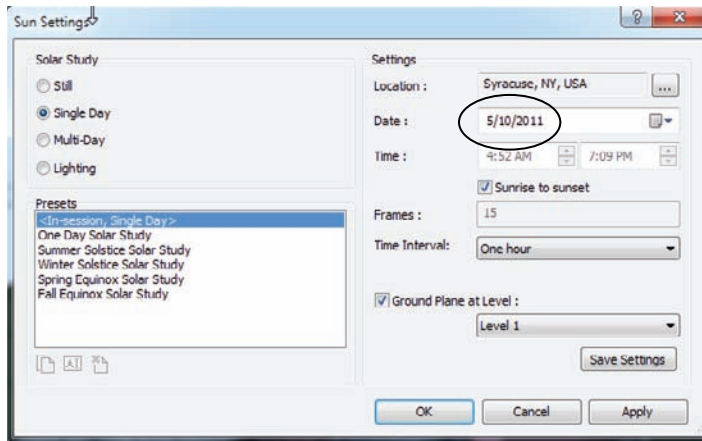

FIGURE 19.24 Setting up the solar study
5. In the Sun Settings dialog, click the Single Day radio button, as shown in Figure 19.24.
8. Set Time Interval to One Hour (see Figure 19.24).